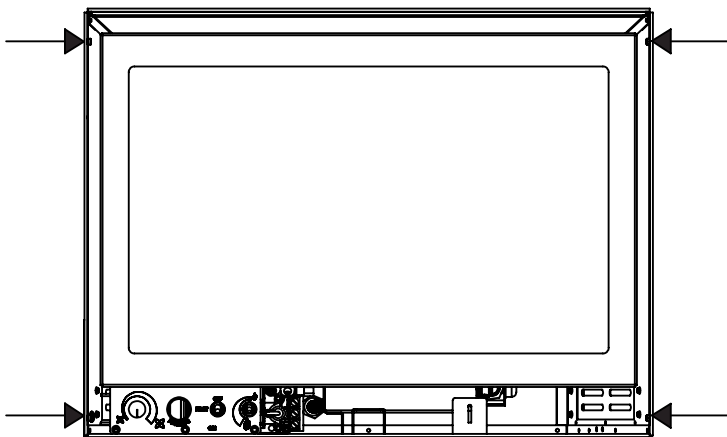

Figure 45: Bushing Locations.
Lift the face upright in front of the fireplace with the four (4) hooks pointing towards the fireplace. Slide the hooks over their corresponding bushings (see Figures 45 & 46). Ensure the hooks are secure before releasing the surround. The surround should be wiped with a damp cloth periodically.